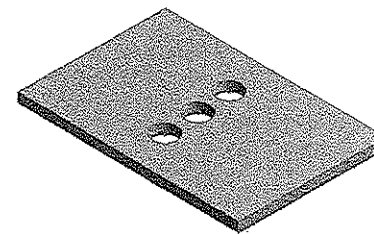
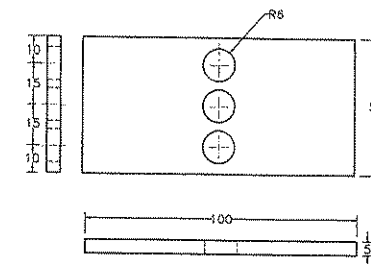

Figure 7-18 Rectangular plate with three equispaced holes
Figure 7-19 Dimensions of the model for Tutorial 1
In this tutorial, you will create the model of a rectangular plate with three holes, refer to Figure 7-18. Next, you will open the **Meshing** window and then generate a mesh with a Relevance of 0. The dimensions of the model are shown in Figure 7-19.
- 10. Switch to the **Sketching** mode and draw three circles on the top face of the plate. For dimensions of the holes refer to Figure 7-19.